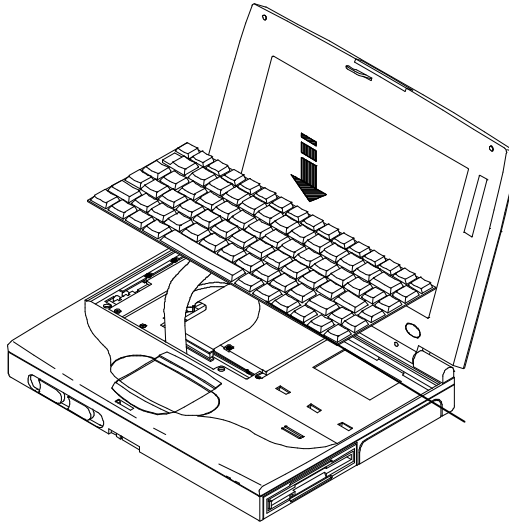

Figure 6-5: Reinserting the Keyboard
12. Insert the rear keyboard tabs into their slots at the back of the notebook. Next, push the keyboard back and then down until the front tabs snap into position. Please refer to **Figure 6-5**.